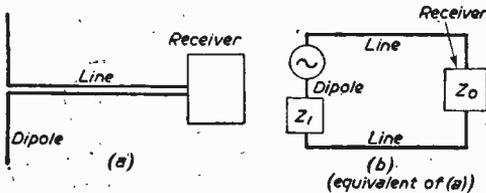

Fig. 9.—Normal television aerial feed and its equivalent circuit.
**B**OOTH in television transmission and reception it is necessary to make use of matched transmission lines for optimum transfer of signal. A receiving aerial can be thought of as a generator—it has a current induced in it by the incoming signal. It has its own impedance (about  $72\Omega$  at the centre of a normal dipole). Therefore, a cable having this value as its characteristic impedance is used to obtain the maximum transfer of power from dipole to the cable. Fig. 9 shows the scheme.